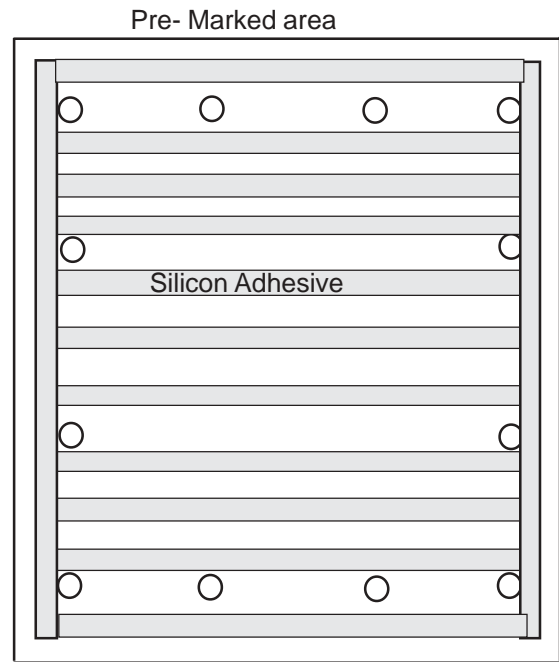

Figure 3
- A. Attach wires to the controller (Fig. 3).
B. Carefully set aside the Lift ASM and use silicone adhesive on the pre-marked areas. Cover entire area as shown (Fig. 3).
1. A. Connect the gray motor drive cable coming from the Lift ASM into the rear of the controller. (Fig. 3)
B. Connect the Red wire to +12V DC and the Black wire to GND on the rear of the Controller. (Fig. 3)
C. Connect the Data Port Cable into the controller and receiver. (Fig. 3)